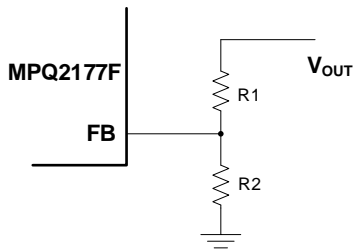

Figure 10: Feedback Network
Figure 10 shows the feedback (FB) circuit.